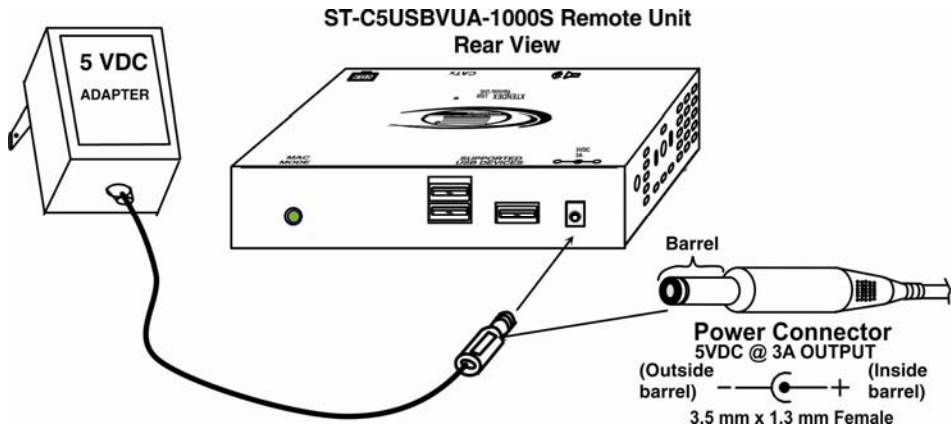

Figure 5- Connect the AC adapter to an XTENDEX Remote Unit
3. Plug the AC adapter into a power outlet. The green LED on the XTENDEX should illuminate, indicating that a proper power connection has been made. (See Figure 5)